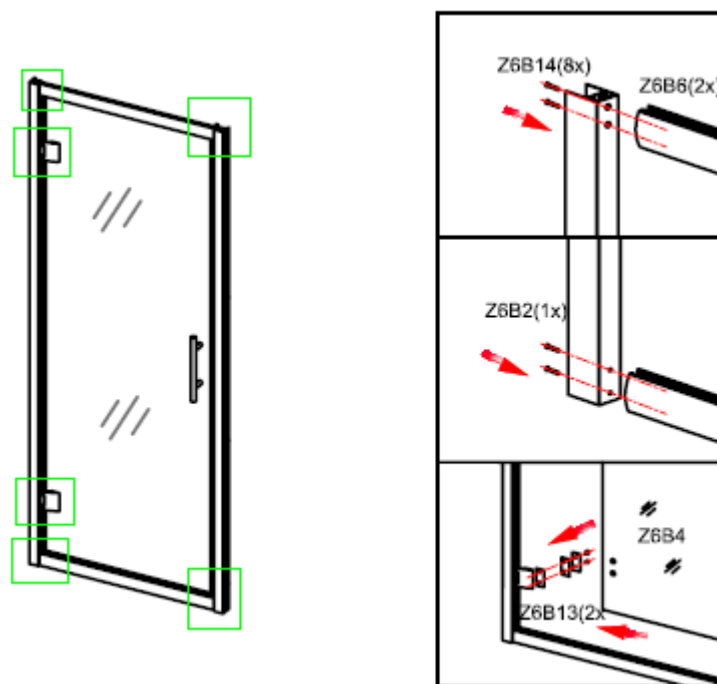

Figure 3
3. Connect the fixed profile(Z6B2) to the rail profile(Z6B6) vertically by using the screw(Z6B14).Fasten the hinge onto the fixed profile(Z6B2) and the glass panel(Z6B4),as showed in figure 3.